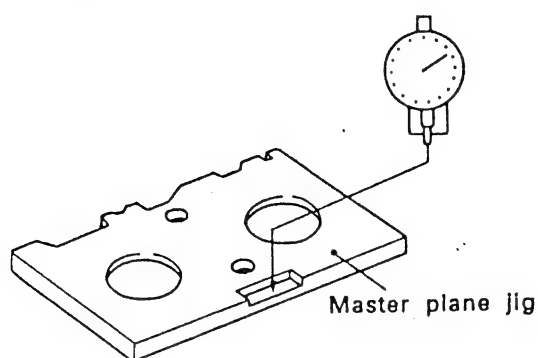

Fig.3 Master plane jig setting
- a) Set the master plane jig as shown in Fig.3.